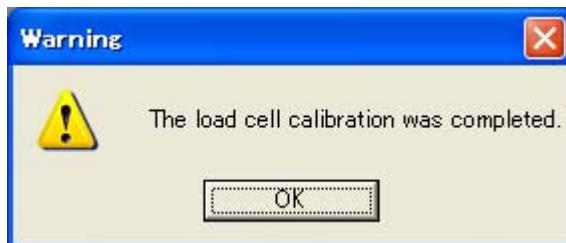

Fig. 10.18 Load Cell Calibration Completion Message
- (2) When the calibration is complete, the message “The load cell calibration was completed” (Fig. 10.18) appears.